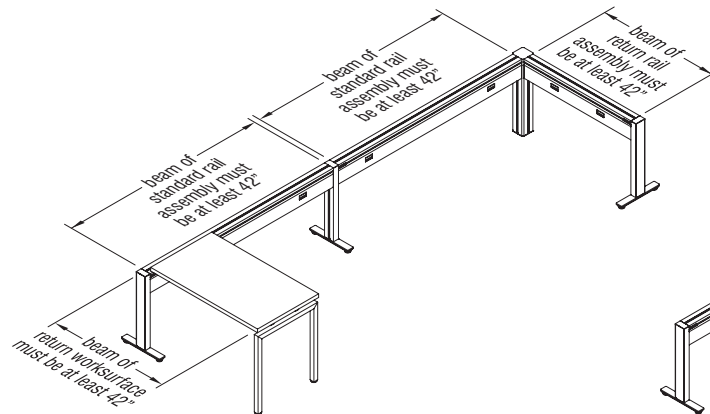
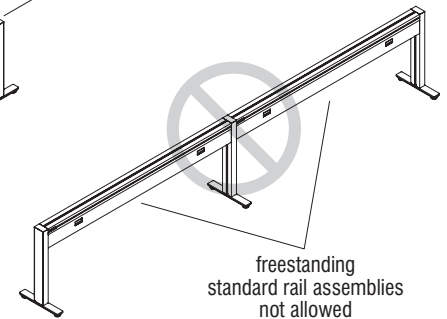

Figure 13
Figure 14
- Standard rail assemblies (comprised of beam and legs), must have perpendicular support of a return worksurface or a return rail assembly (Figure 13). Rail assemblies may not be freestanding (i.e. standalone) when in straight runs (Figure 14).
- Return rail assemblies must have a beam length of 42" or greater. Rail assemblies 24", 30" & 36" may not act as returns unless configured inline with multiple beam assemblies to be more than 42" (Figure 13).